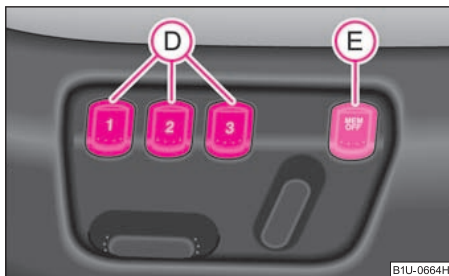

Fig. 61 Driver seat: Memory buttons and the button MEM OFF
Memory for the seat offers the possibility to store the individual driver seat and external mirror position. An individual position can be allocated to each of the three memory buttons **(D)** ⇒ fig. 61, that is three in total. By pressing the appropriate memory button **(D)** the seat and external mirror will automatically move into the position allocated to this button ⇒ page 63.
- **By pressing briefly:** with the door open, operate the desired memory button ⇒ page 62, fig. 61 with one-touch. The seat and the exterior mirrors now move automatically into the stored position.
After pressing the off switch (E) of the memory system ⇒ page 62, fig. 61, the memory system is deactivated. You can only adjust the seat and the exterior mirrors manually. You can switch on the memory system again by once again pressing the off switch (E) of the memory system. The setting is not carried out to the end if a retrieved setting operation is interrupted.